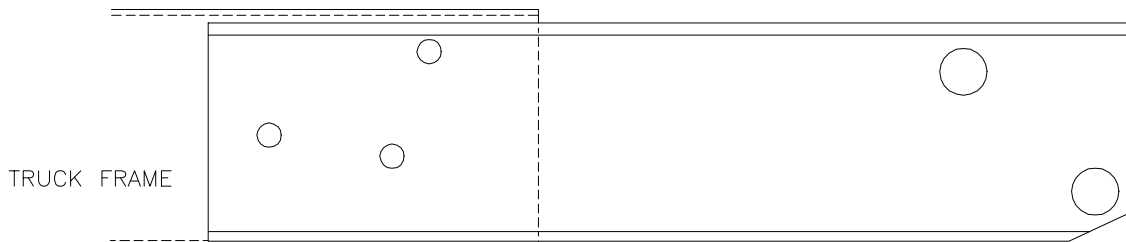

FIGURE 1 (driver side view)
STEP 1: Using 3/8 hardware, loosely install mounting brackets on the outside of truck frame rails with the offset inwards. Refer to figure 1 and 2. DO NOT TIGHTEN mounting hardware.